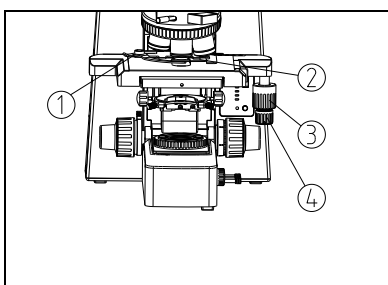

Fig.12
(1) Push the wrench ① of the specimen holder backwards (see Fig. 12).
(2) Loosen the wrench ①, and clamp the slide ② by the clips while the cover glass faces up.
(3) Rotate the X-axis knob ④ and Y-axis knob ③. Move the specimen to the center (alignment with the center of the objective).